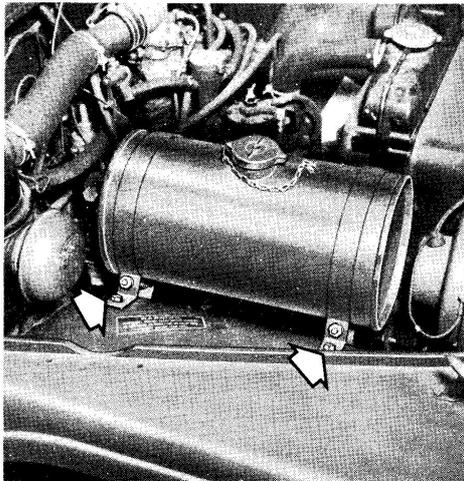

Fig. 24. Fuel tank mounted on fender.
- c. Mount the fuel tank to the vehicle with the pipe plug toward the rear as shown in Fig. 24.